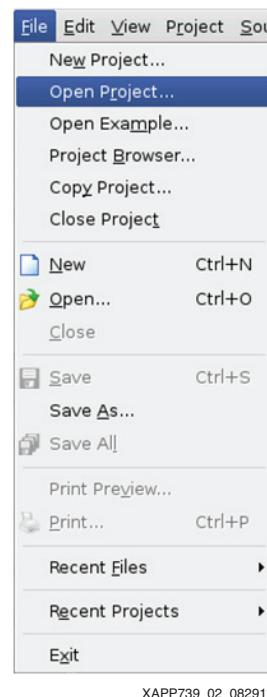

Figure 2: Opening a Project in Project Navigator
4. In ProjNav, select **File > Open Project** (Figure 2).